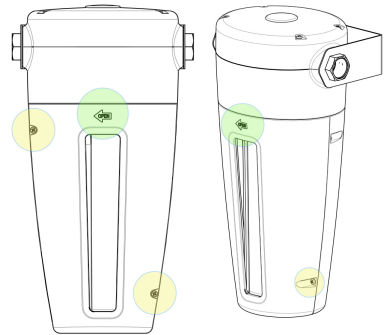

Fig 7. Screws of Salt container
- ▶ Open the white Sensibleblue housing by turning the housing following the indicated direction "OPEN". If there is no space to remove the cap downwards, you may unscrew the housing (marked yellow, Fig 7).